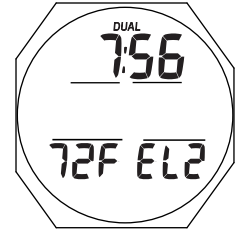

Fig. 5A - WATCH ALT (differential set)
**WATCH ALT**, information includes (Fig. 5A/B):